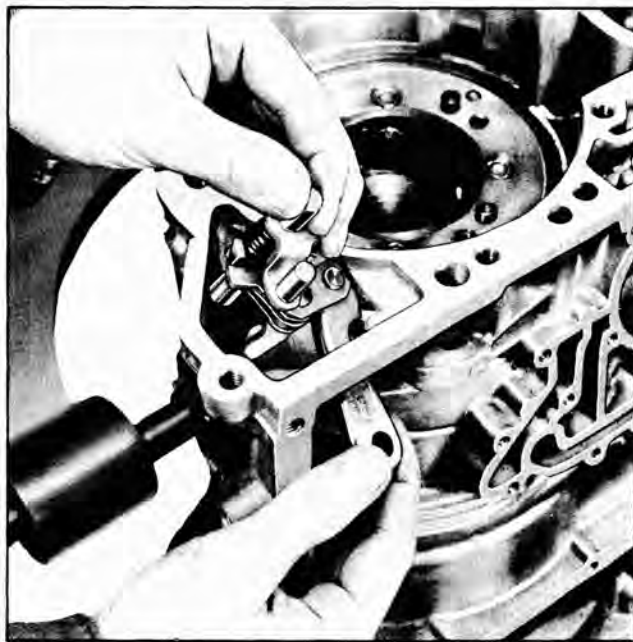

Fig. 65 Removing Parking Linkage
9. Remove parking linkage assembly from case by lifting parking bracket shaft and entire assembly out of the hole in the rear of the case (Fig. 65).